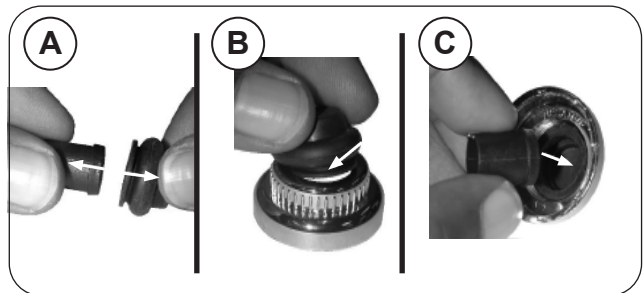

Fig. 38-3 Rubber cap replacement
1. Pull the rubber cap and the inner plastic sleeve apart (see Fig. 38-3, A).
2. Carefully insert the rubber cap into the igniter cover so it sits behind inner lip (see Fig. 38-3, B).
3. Turn the cap over and slide the inner plastic sleeve into the cap (see Fig. 38-3, C).